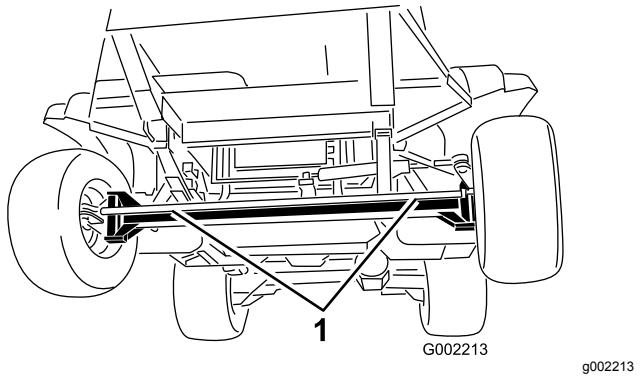

**Figure 57**
3. Rotate the tow valve (Figure 57) 90° in either direction to open the tow valve.